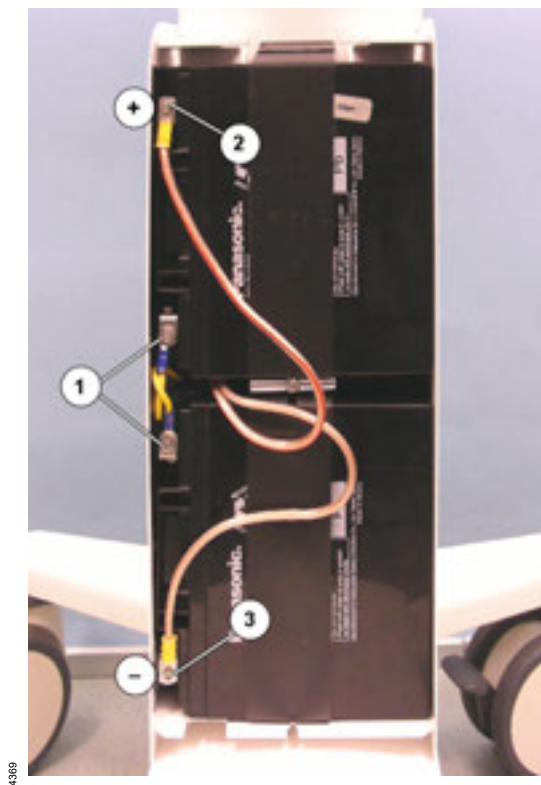

Fig. 114 External batteries: Electrical connections
- a) The cable with the red marking is connected to the positive terminal (Fig. 114/2) of the upper battery.
- b) The cable with no marking is connected to the negative terminal (Fig. 114/3) of the lower battery.
13 Secure the electrical cable with integrated tab fuse (Fig. 114/1) by one screw and one spring washer to the battery mounting brackets.